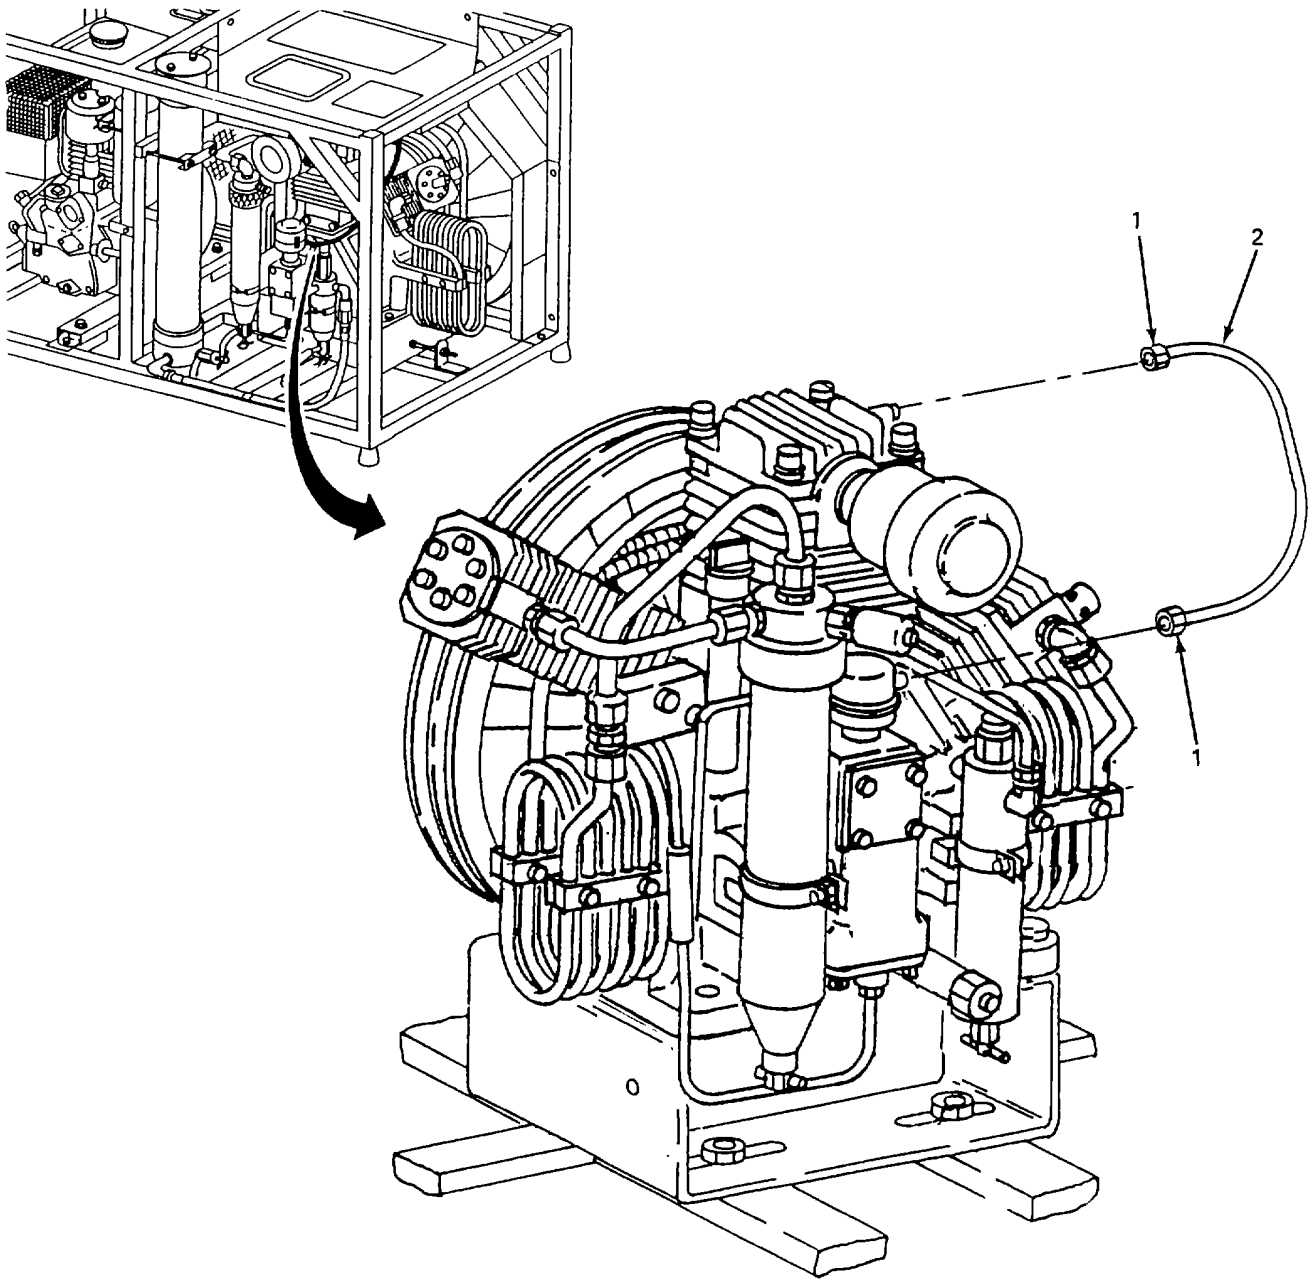

Figure 5-21. Tube Assembly, Replace.
d. Replace Tube Assembly. (figure 5-21)
- (1) Loosen two connector nuts (1) and remove line (2).
- (2) Install line (2) and tighten two connector nuts (1).